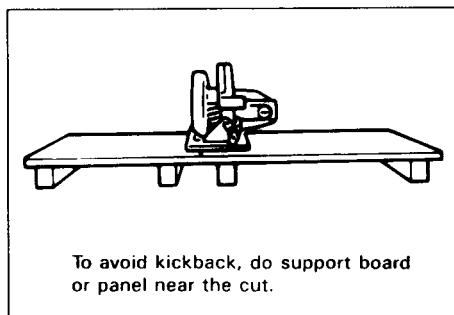

Fig. 1
Large panels must be supported as shown in Fig. 1 to minimize the risk of blade pinching and kickback.
7. **Guard Against Kickback.** Kickback occurs when the saw stalls rapidly and is driven back towards the operator. Release switch immediately if blade binds or saw stalls. Keep blades sharp. Support large panels as shown in Fig. 1. Use fence or straight edge guide when ripping. Do not force tool. Stay alert exercise control. Do not remove saw from work during a cut while the blade is moving.